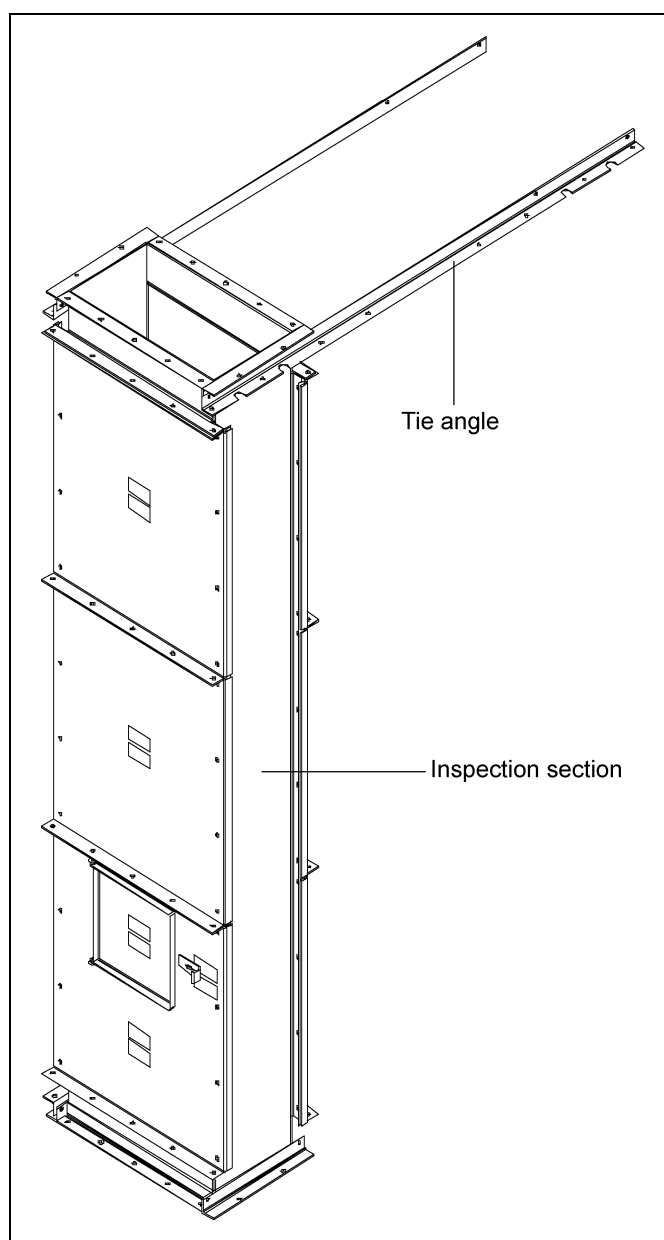
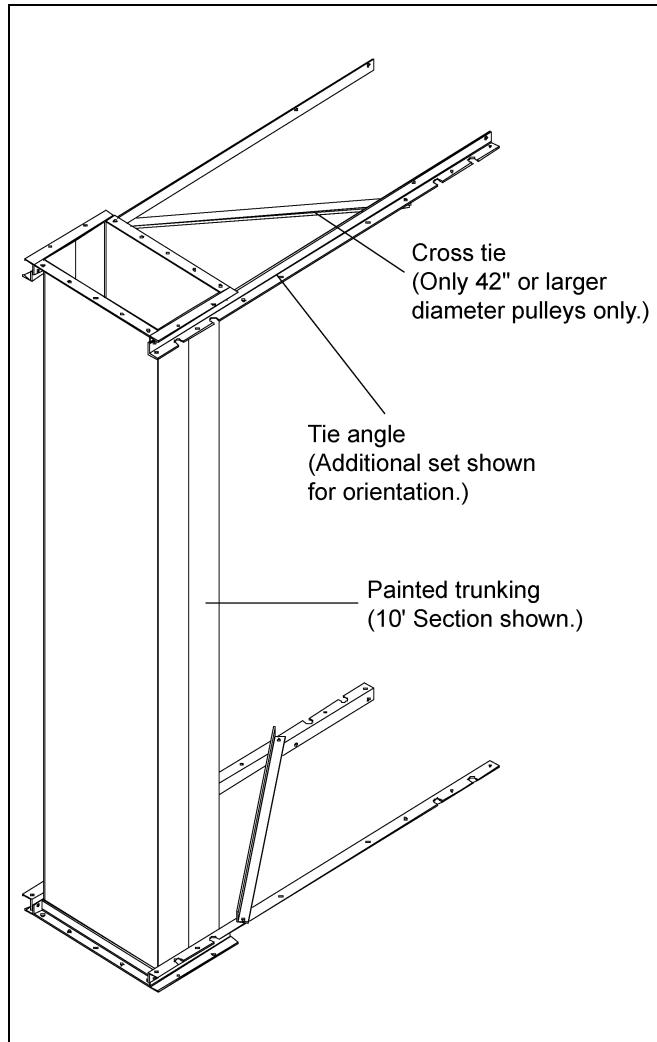

Figure 6B *Inspection Section*
Figure 7A Painted Trunking
NOTE: *Along with the inspection section, you will receive installation hardware and two (2) tie angles. Units containing 42" diameter pulleys and larger, will include a cross tie on the legs, which will be included. (See Figure 6B below and Figure 7A on Page 22.)*